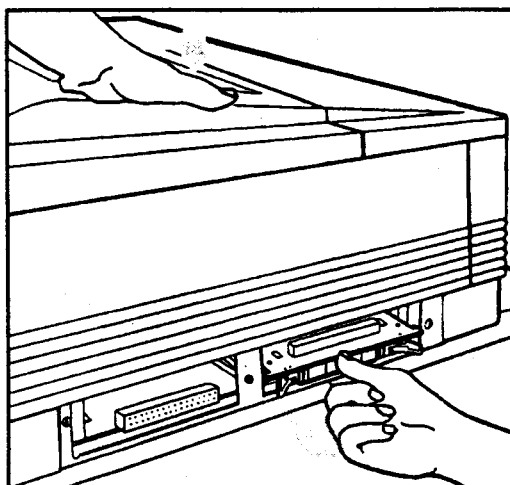

Figure C-5. Seating Board
6. To fully seat the board, hold the printer with your free hand, then **firmly** push against the board's flat green plastic area (see Figure C-5).